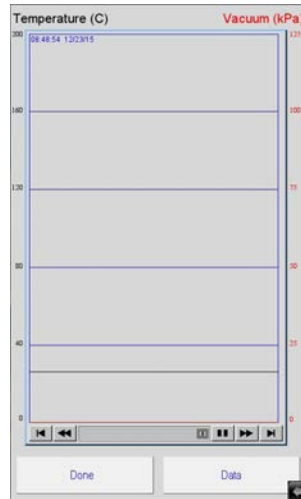

Figure F.9 - Graph Screen, test running
5. When pressed, the screen shown in Figure F.9 will display. You can leave this screen on the monitor during the test or press the “Done” button in the lower left to return you to the Main Screen while the test is running.